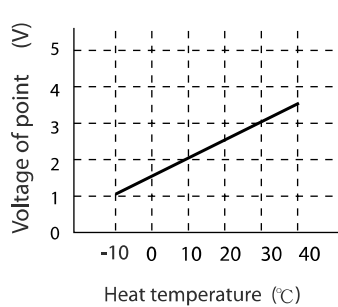
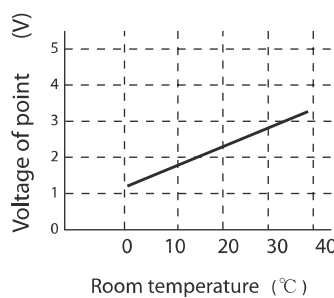
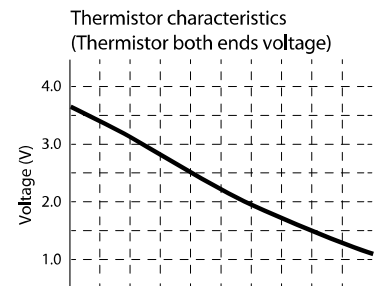

Fig. 6-1
Fig. 6-2
Fig. 6-3
- The relationship between the temperature of the thermistor and the circuit voltage is roughly as shown in Fig.6-1 and Fig.6-2. When it is easy to measure between the terminals of CN4 in actual measurement, use the graph of Fig. 6-3